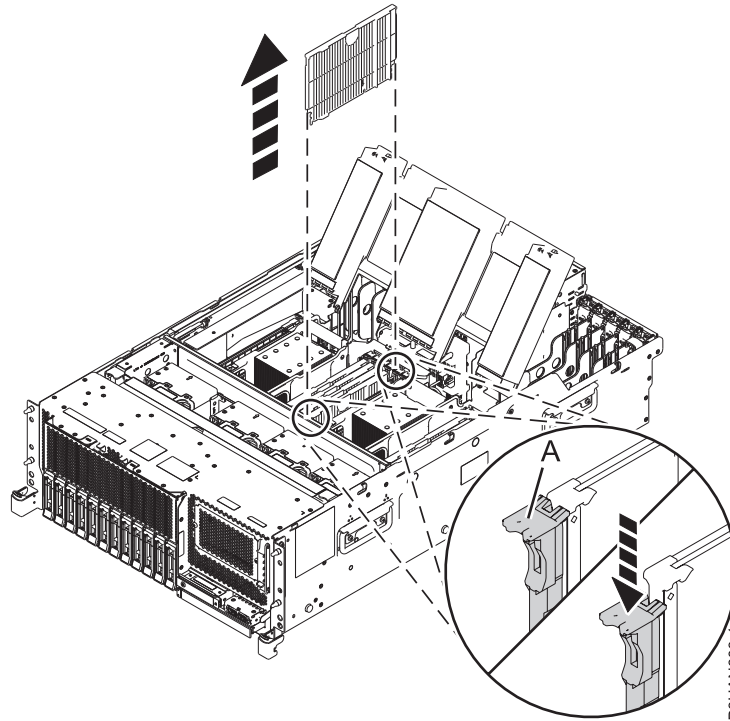

Figure 7. Removing a memory module filler from the memory module slot in an 8247-42L, 8286-41A, or 8286-42A system
- a. To unlock the memory module filler from its connector in the slot, push the locking tabs (A) in the direction that is shown in Figure 7 on page 13. The lever action of the tabs forces the memory module filler out of the connector.